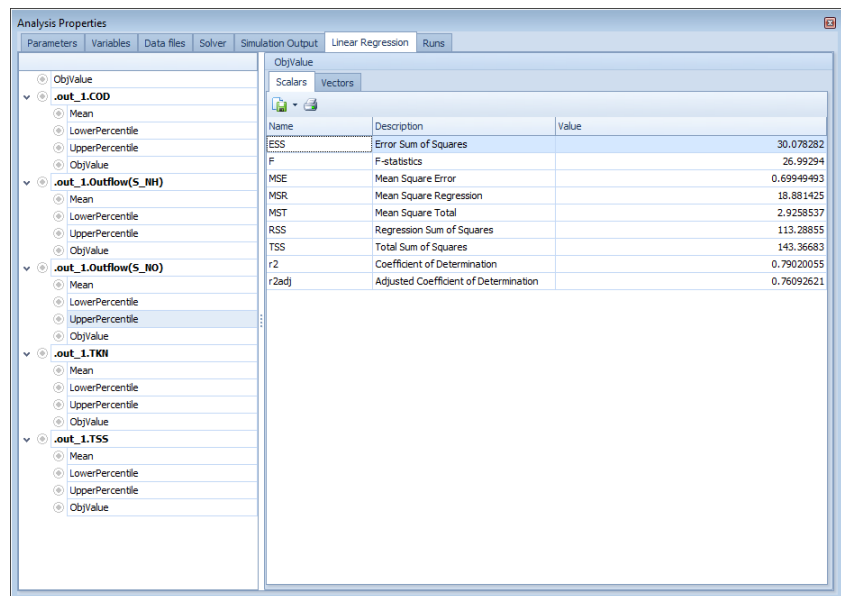
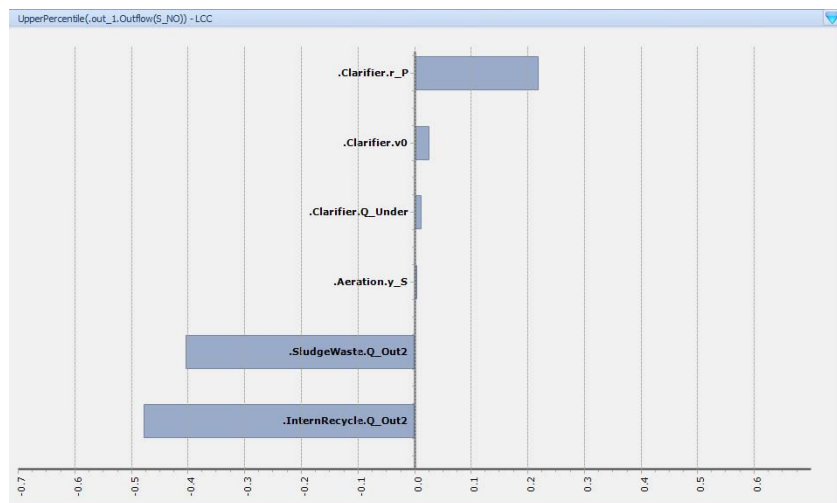

Figure 10.2 Example of Scalars values for one of the simulation objectives
Figure 10.6 Linear Correlation Coefficient (LCC) for the Upper Percentile of nitrate concentration in the effluent
- In the “Variables” tab page, we will be looking at the sensitivity of the COD, Nitrate (NO) and solids (TSS) concentration in the effluent (make sure the usual Time series Criteria are selected for these variables).
- The outputs of the GSA experiment are shown in Figure 10.2 to Figure 10.6:
- the aeration set-point and the internal recycle have the greatest impact on the concentration of nitrate in the effluent (Figure 10.6): the opposite sign indicates that the higher the internal recycle, the lower the nitrate concentration.